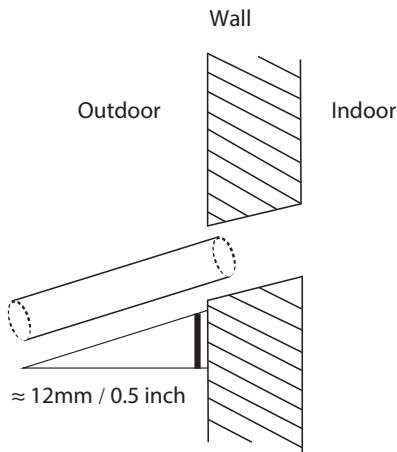

Fig. 6.5
- Using a 65-mm (2.5") core drill, drill a hole into the wall. Make sure that the hole is drilled at a slightly downward angle, so that the outdoor end of the hole is lower than the indoor end by about 12mm (0.5"). This will ensure proper water drainage (See Fig. 6.5). Place the protective wall cuff into the hole. This protects the edges of the hole and will help seal it once the installation process is completed.